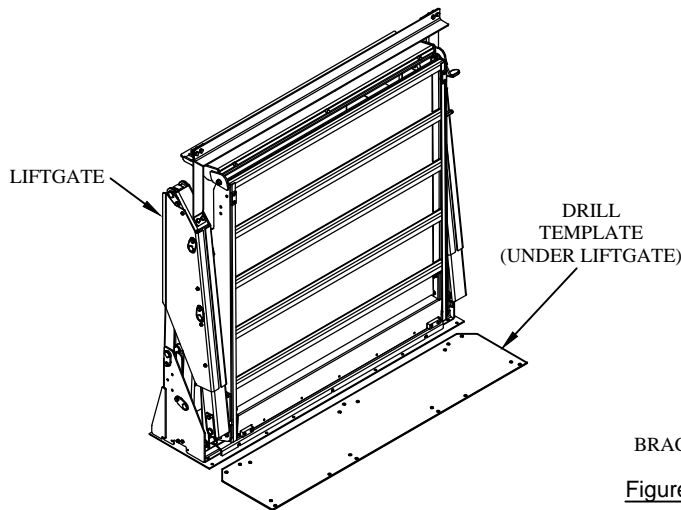
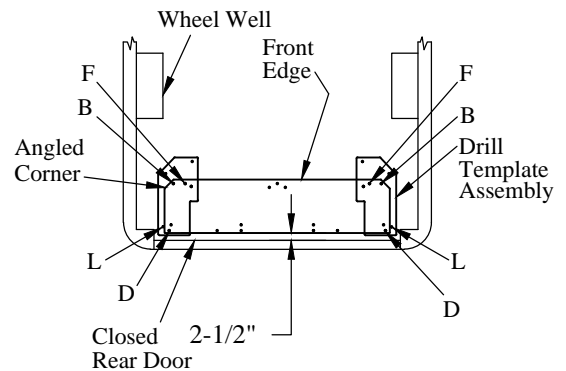

Figure 1: Part identification.
Figure 5: Drill template location (top view).
2. **Verify** mounting kit, liftgate, and other components (Figure 1 and Table 1).
3. **Place** the drill template assembly in the rear of the van (Figure 5):
12. **Place** the drill template assembly (Figure 1) in the rear of the van (Figure 5):